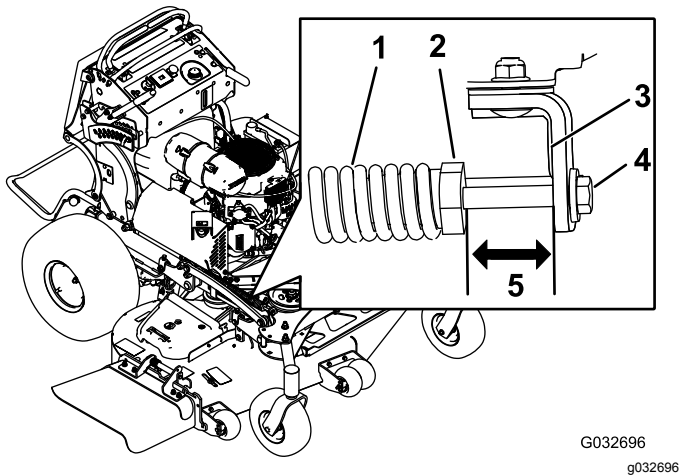

Figure 90
2. Check the length between the spring nut and the rear side of the welded mount bracket (Figure 90).
3. Ensure that the length is between 47 to 50 mm (1.8 to 2 inches) (Figure 90).
4. If needed, adjust the distance by adjusting the bolt on the front of the mount bracket (Figure 90).